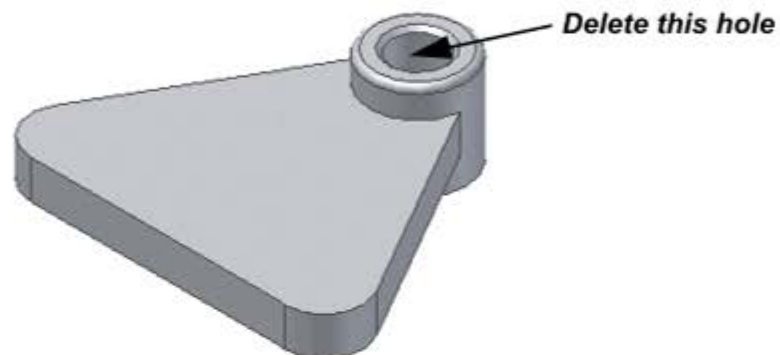

Figure 15–21
6. The Delete Features dialog box opens if you select and delete the hole shown in Figure 15–21. Which of the following best describes why this dialog box becomes available?